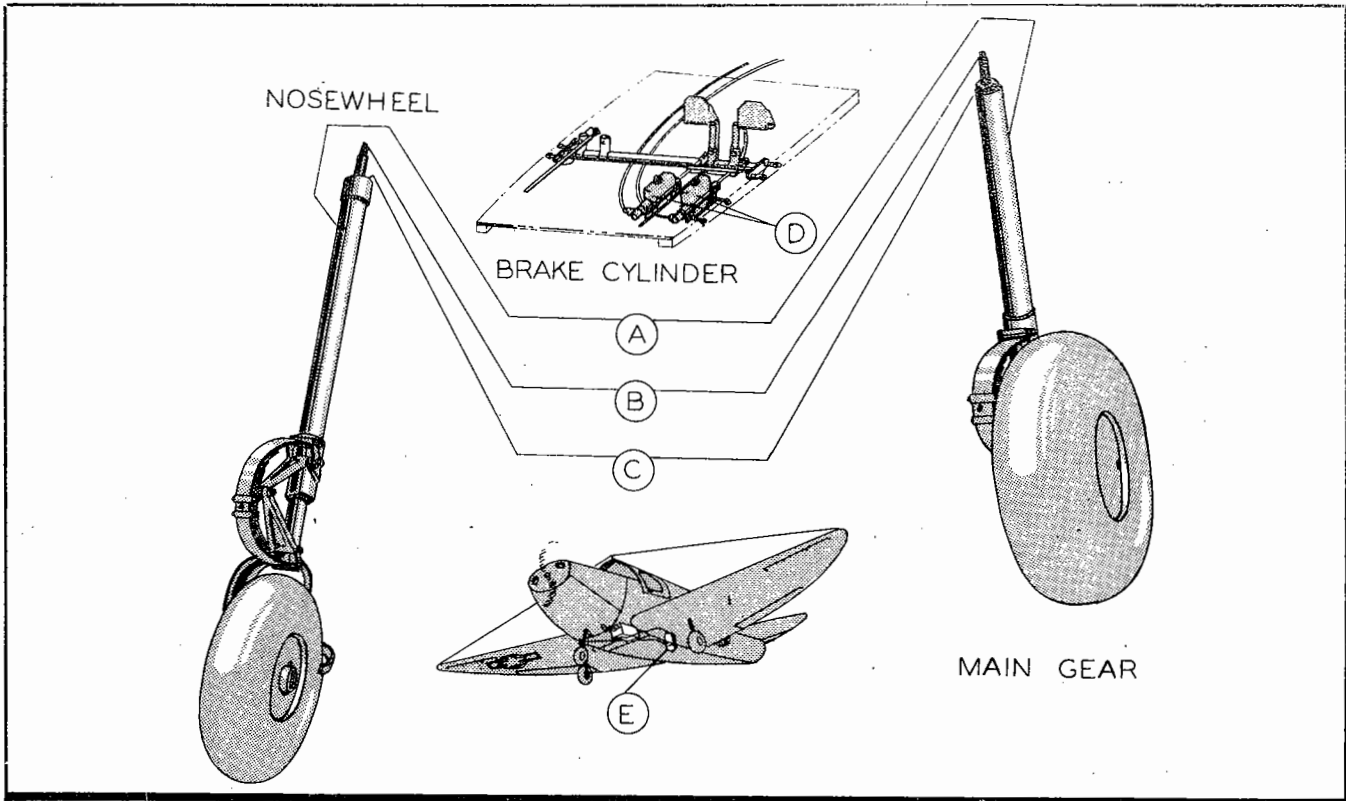

Figure 70—Hydraulic System Filling
Check operation of brakes, fill system, and bleed as required. (See section IV, paragraph 5. a. (7) (f).) (See figure 70.)
Key to Figure 70